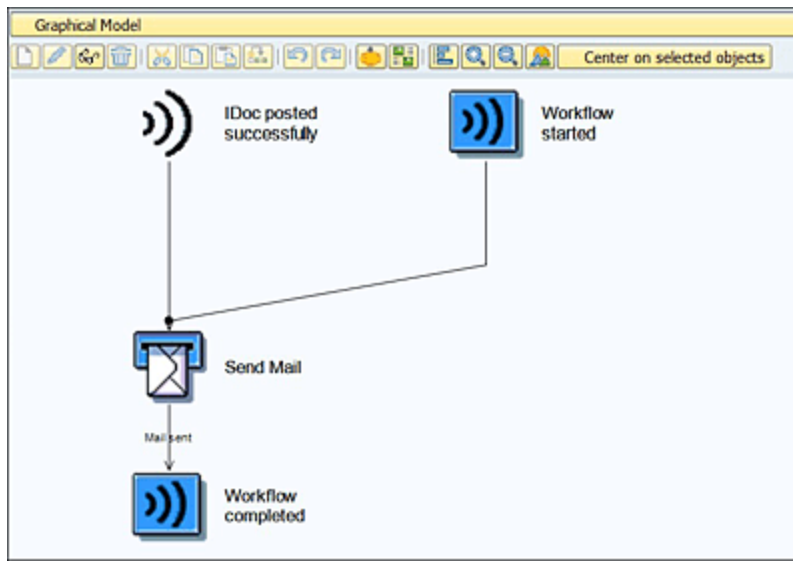

Figure 9.12 Workflow Definition for Successful Notification of IDoc Posting
5. The workflow definition may contain any step(s) per your requirement. In Figure 9.12, we've added a simple **Send Mail** step just to demonstrate the functionality.